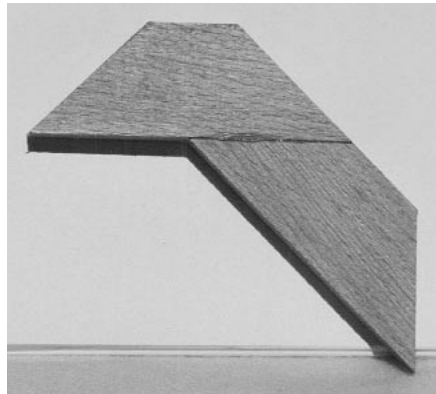
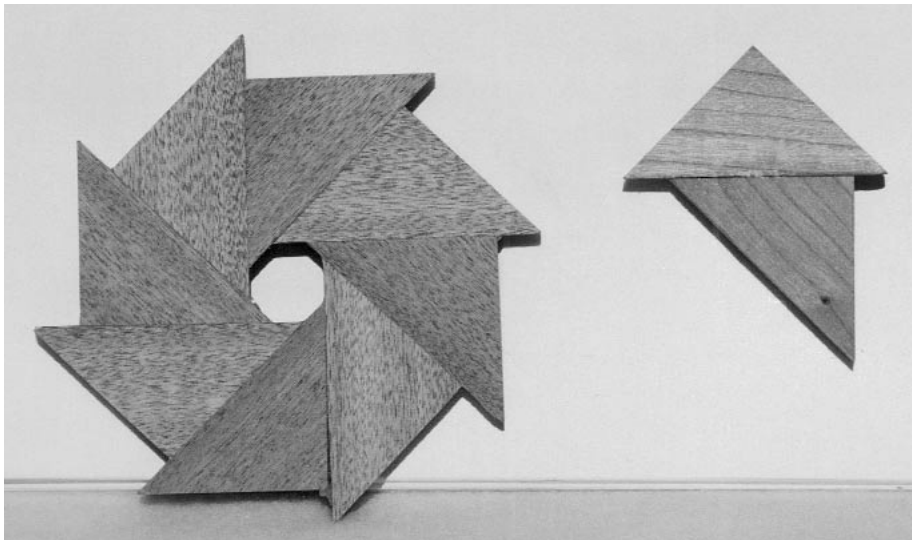

Figure 7: Glue ring segments in pairs, usually aligned as shown.
Figure 8: To accommodate a radius less than  $1\frac{1}{2}$ ", shift the segments in relation to one another as shown.
2. Glue the ring segments in pairs (Figure 7). In most cases this involves setting the trailing point on the first segment even with the top corner of the second segment. But here is where we take care of those rings with a centerline radius under  $1\frac{1}{2}$  inches. As the right-hand section of Figure 8 shows, the glue face of the second segment in the pair is shifted over so that its lead point is approximately  $\frac{1}{4}$  inch behind the first segment's lead point. In the final assembly (on the left in Figure 8), this will result in a center hole about  $\frac{3}{8}$  inch in diameter and will amply cover radius requirements out to  $1\frac{1}{2}$